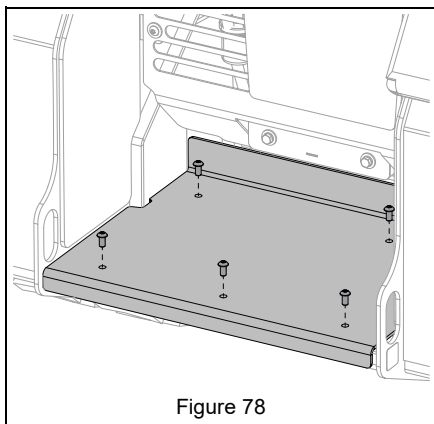

Figure 78
3. Reinstall foot pad with hardware removed earlier. See Figure 78.